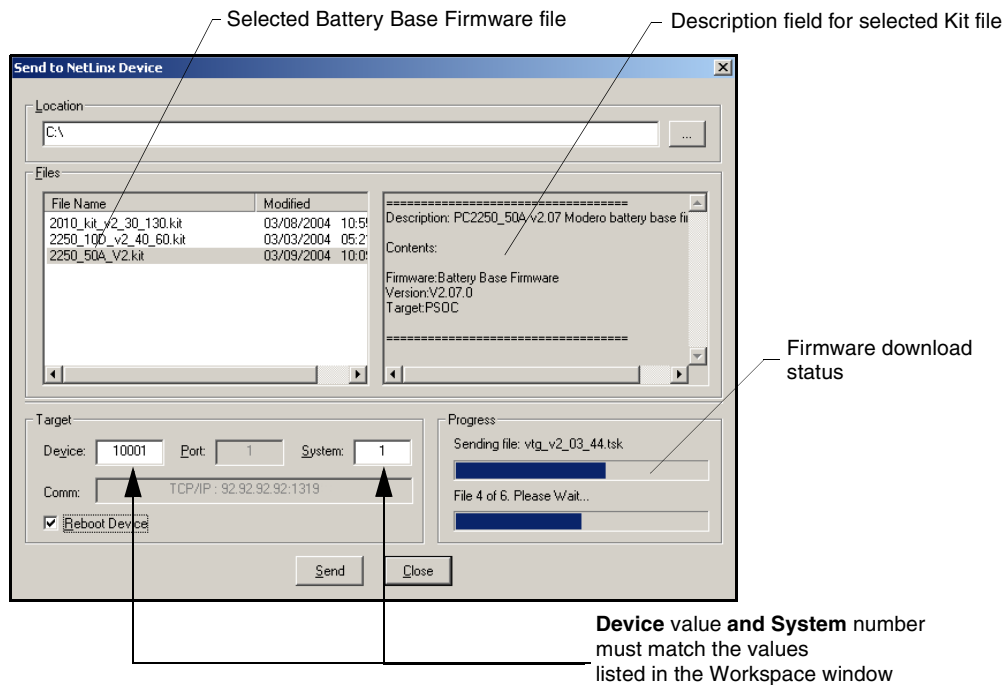

FIG. 81 Send to NetLinX Device dialog (showing NXA-BASE/B firmware update via IP)
6. From within Studio, select **Tools > Firmware Transfers > Send to NetLinX Device** from the Main menu to open the Send to NetLinX Device dialog (FIG. 81). Verify the panel's System and Device number values match those values listed within the System folder in the **OnLine Tree** tab of the Workspace window.
7. Select the battery base's Kit file (*ending in VXX.kit*) from the **Files** section (FIG. 81).
10. Click **Send** to begin the transfer. The file transfer progress is indicated on the bottom-right of the dialog (FIG. 81).